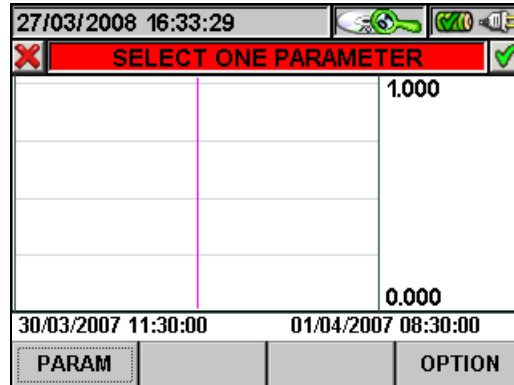

Fig. 127: Selecting a parameter
- The **ESC** key (or smart icon) to exit the function and go back to the “Selecting a parameter” page (Fig. 127).
3. Press the **ESC** key (or the smart icon ) to exit the function and go back to the “Selecting a parameter” page (Fig. 127).